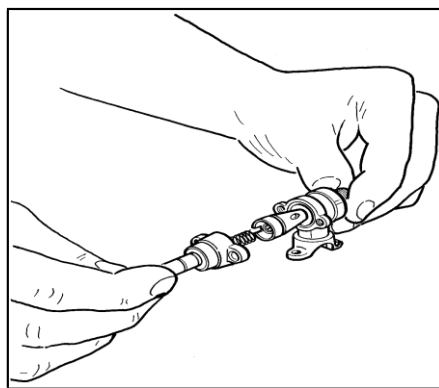

Fig. 20
- 1) Disassemble the valve body by loosening the two screws located on the body of the valve (Fig.20)